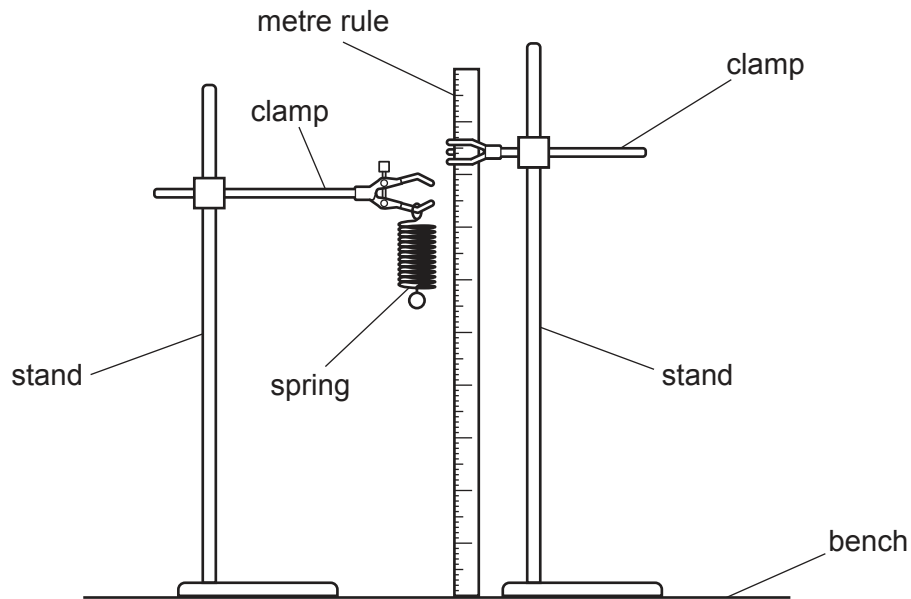

Fig. 5.1 (not to scale)
The spring and the metre rule have been set up for you as shown in Fig. 5.1.
- (iii) Use a double-headed arrow ( $\longleftrightarrow$ ) on Fig. 5.1 to show clearly the length  $l_0$ . [1]